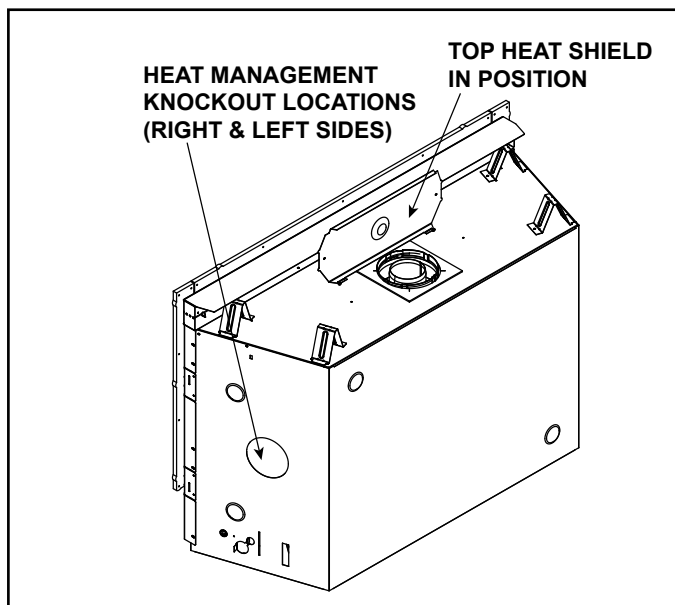

Figure 6.2 COSMO42-IFT - Top Heat Shield in Position
2. Fold up top heat shield to 90 degrees as shown in Figure 6.2.
- Locate the heat management ports on the left and right sides of the appliance. Either one or two Heat-Zone® -Gas Kits may be installed. See Figure 6.2. Remove the knockouts from the appliance with a tin snips.